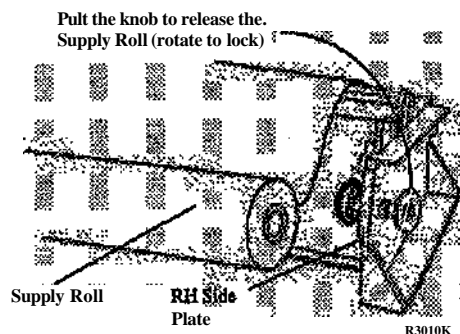

Figure 1. Removing the Supply Roll
2. (Figure 1): Remove the Supply Roll.